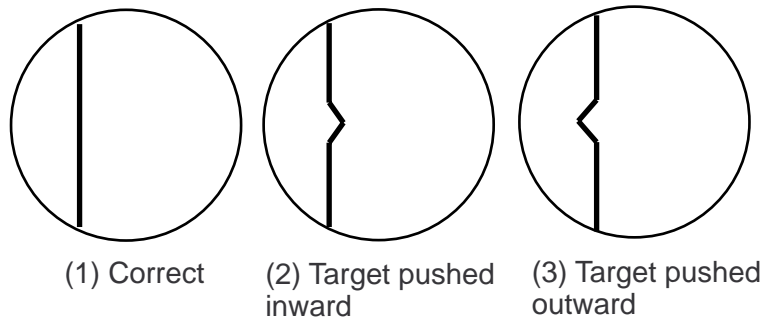

Figure 3-3 Examples of correct and incorrect sweep timings
- The echo of a "straight" target (for example, pier), on the 0.25 nm range, will appear on the display as being pulled inward or pushed outward. See Figure 3-3.